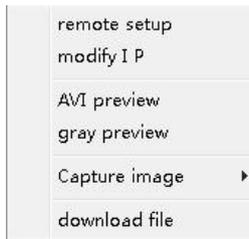

Figure 5-3
2) **Remote operate:** It can operate the thermal imaging camera multi-functionally, such as Remote setup, Modify IP, AVI preview, Gray preview, Capture image and Downloads file. As shown in the figure 5-3.